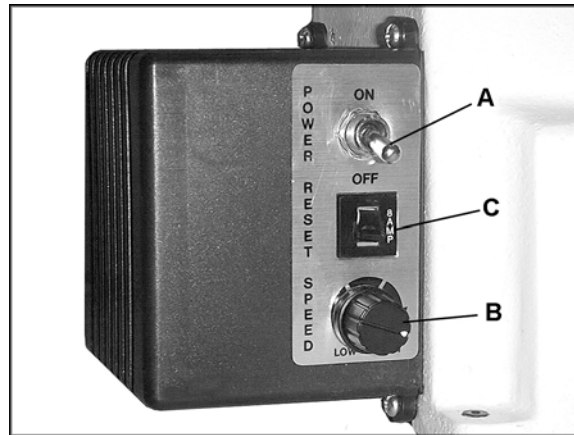

Figure 9
**Power Switch** (A, Figure 9) – controls electrical power to lathe motor. Flip toggle switch on ON position to start the motor. The lathe will begin turning and driving the headstock spindle. The lathe will reach full speed in about 1 to 3 seconds. The time it will take the motor to reach the speed set by the speed control knob depends on the size and weight of the workpiece.
**Speed Control Knob** (B, Figure 9) – sets the speed of the lathe to suit the weight of the workpiece or type of tool being used. After lathe is started, turn knob clockwise to increase spindle speed. Counterclockwise decreases speed.
**Reset Button** (C, Figure 9) – contains overload protection. If the lathe stops suddenly during operation, or does not start when the power switch is set to ON, an overload condition may have occurred. Flip the power switch to OFF, and push the reset button. Then re-start the lathe.